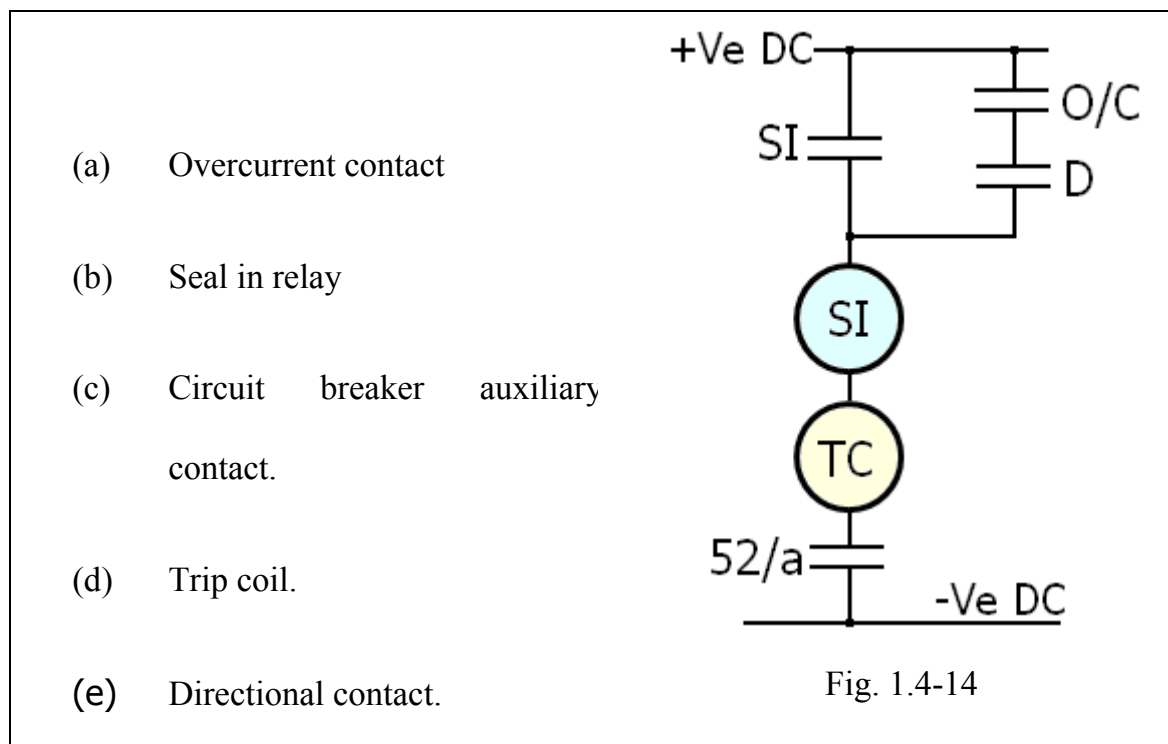

Fig. 1.4-14
8. Study the control circuit diagram of Fig. 1.4-14 and match the following: